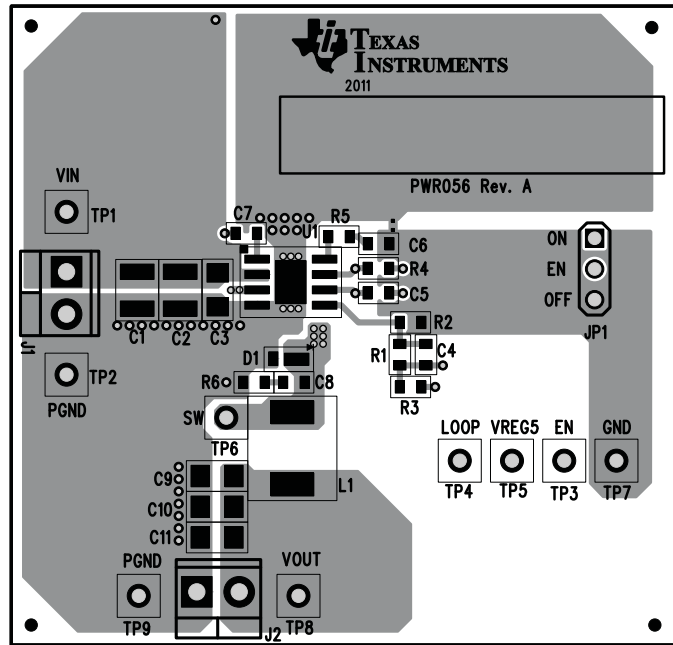

Figure 12. Top Assembly
The board layout for the TPS54329EVM-056 is shown in Figure 12 through Figure 16. The top layer contains the main power traces for VIN, VO, and ground. Also on the top layer are connections for the pins of the TPS54329 and a large area filled with ground. Many of the signal traces also are located on the top side. The input decoupling capacitors are located as close to the IC as possible. The input and output connectors, test points, and all of the components are located on the top side. An analog ground (GND) area is provided on the top side. Analog ground (GND) and power ground (PGND) are connected at a single point on the top layer near C6. The two internal layers are completely dedicated to power ground planes. The bottom layer is primarily power ground. A copper pour area on the bottom layer is used to connect the switching node (SW) to the output inductor and the boost capacitor. Traces also connect enable control jumper, EN, VREG5, and LOOP test points, and the feedback trace from VOUT to the voltage setpoint divider network.